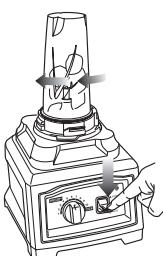

Fig. 11
- 5 Turn the Nutri Ninja Cup upside down and place it onto the motor base, aligning the tabs on the cup with the motor base. (**Fig. 10**) Turn clockwise until the cup locks in place, the unit is ready for use. (**Fig. 11**)
- in short intervals until you have reached your desired consistency. (**Fig. 11**)